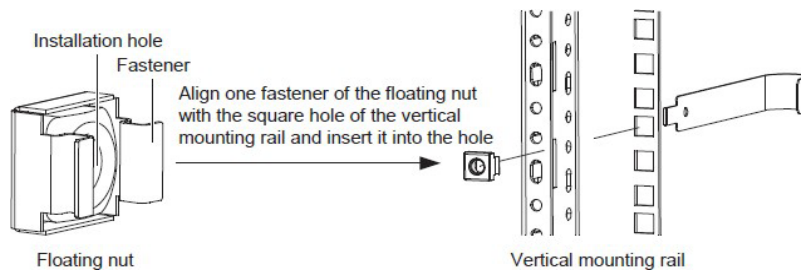

Figure 2-2 Schematic diagram for installing floating nut
- Insert one fastener of the floating nut into the square hole of the vertical mounting rails, as shown in Figure 2-2